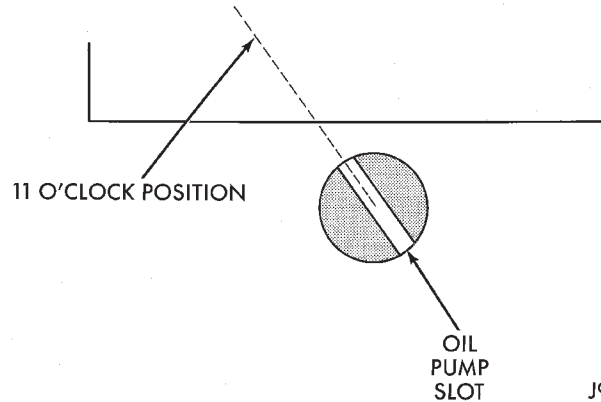

Fig. 39 Slot At 11 O'clock Position—4.0L Engine
(8) Remove distributor holddown bolt and clamp.
(9) Remove distributor from engine by slowly lifting straight up.
(10) Note that rotor will rotate slightly in a counterclockwise direction while lifting up the distributor. The oil pump gear will also rotate slightly in a counterclockwise direction while lifting up the distributor. This is due to the helical cut gears on distributor and camshaft.
(11) Note removed position of rotor during distributor removal. During installation, this will be referred to as the Pre-position.
(12) Observe slot in oil pump gear through hole on side of engine. It should be slightly before (counterclockwise of) the 11 o'clock position (Fig. 39).
(1) If engine crankshaft has been rotated after distributor removal, cylinder number 1 must be returned to its proper firing stroke. Refer to previous REMOVAL Step 5 and Step 6. These steps must be done before installing distributor.
(2) Check position of slot on oil pump gear. It should be just slightly before (counterclockwise of) the 11 o'clock position (Fig. 39). If not, place a flat blade screwdriver into oil pump gear and rotate it into proper position.